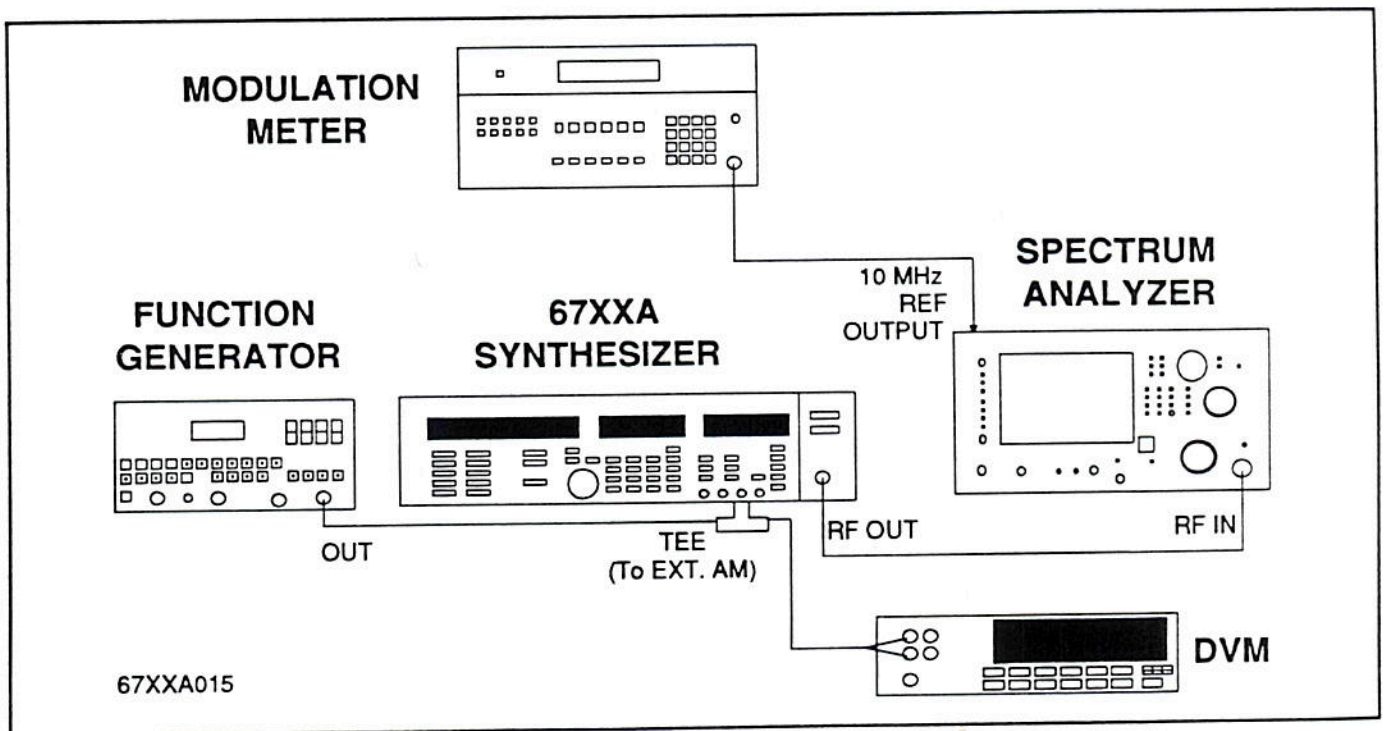

Figure 3-8. AM Sensitivity and AM Meter Calibration Test Setup
a. Test Setup. Connect the equipment as shown in Figure 3-8 and turn the equipment on.
a. Test Setup. Connect the equipment as was shown in Figure 3-8 and turn the equipment on.